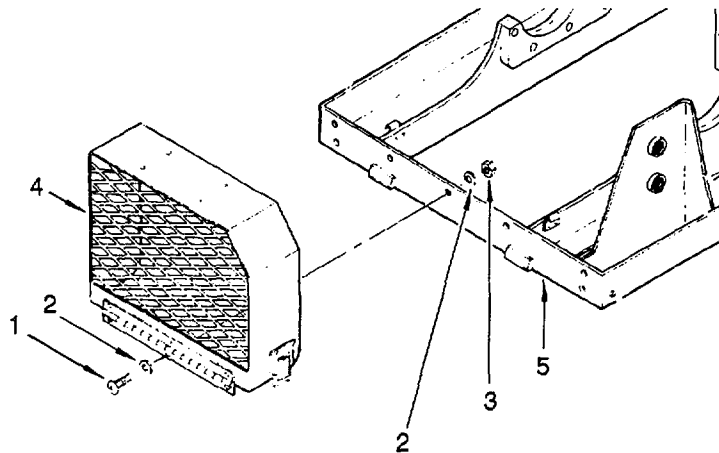

Figure 4-13. Pulley Guard Replacement
4.13.2 Replace Pulley Guard. (Refer to figure 4-13.)